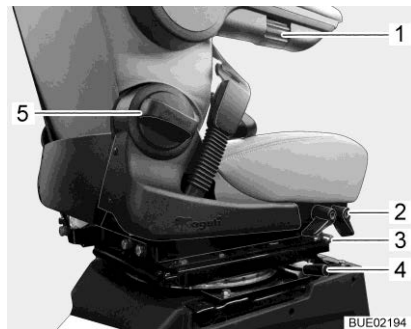

Fig. 28 Seat adjustment
- Operate the release lever (Fig. 28,4). The latch is released.
- Pull the bar (Fig. 28,3) upwards.
- Pull the front or rear lever (Fig. 28,2) upwards.
- Turn the rotary handle (Fig. 28,5). The backrest inclines forwards or backwards, depending on the rotation direction.
- Turn the knurled wheel (Fig. 28,1). The armrest inclines upwards or downwards, depending on the rotation direction.